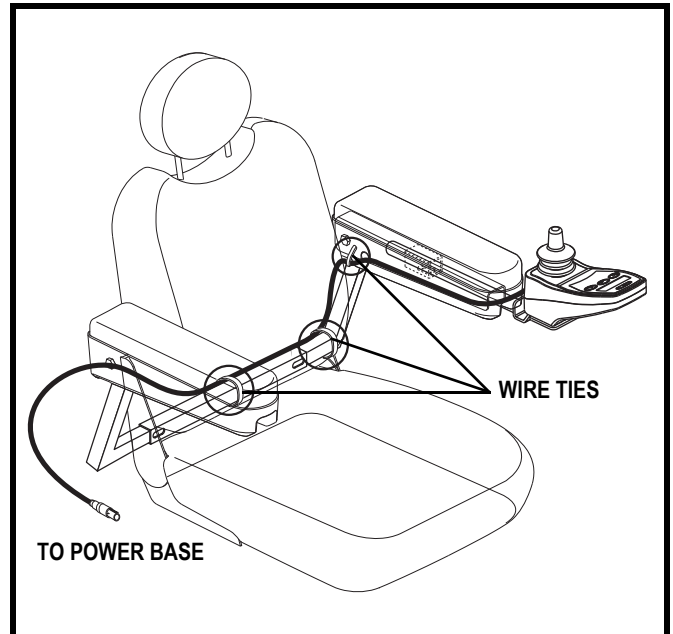

Figure 12. Controller Harness Routing on a Contour Seat
6. Secure the controller harness to the armrest receiver with wire ties. See figure 12.